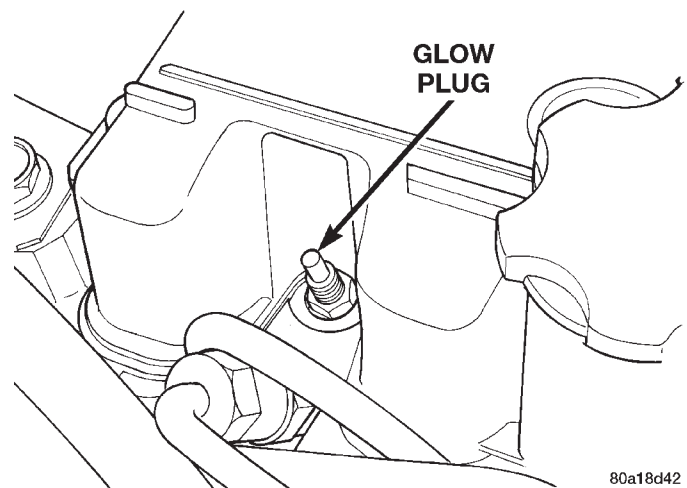

Fig. 27 Glow Plug
The glow plugs are located above each fuel injector (Fig. 27). Four individual plugs are used.
- (4) Remove the glow plug (Fig. 27) from cylinder head.